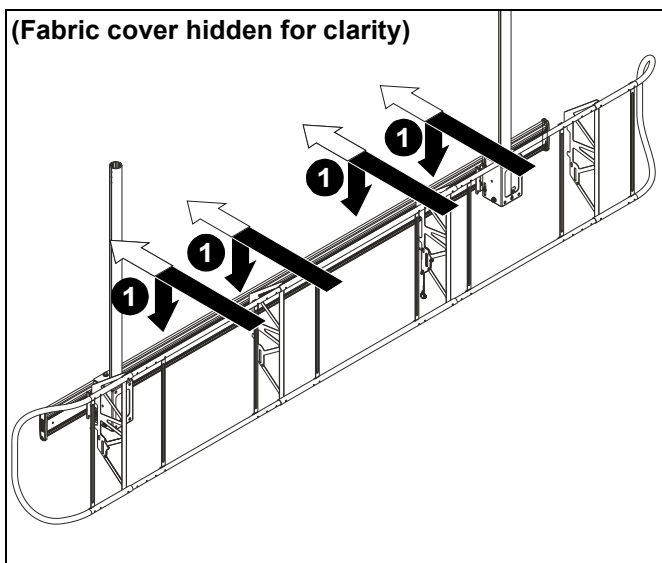

Figure 14
1. Lift assembled cover onto top edge of mounting rail. (See Figure 14)